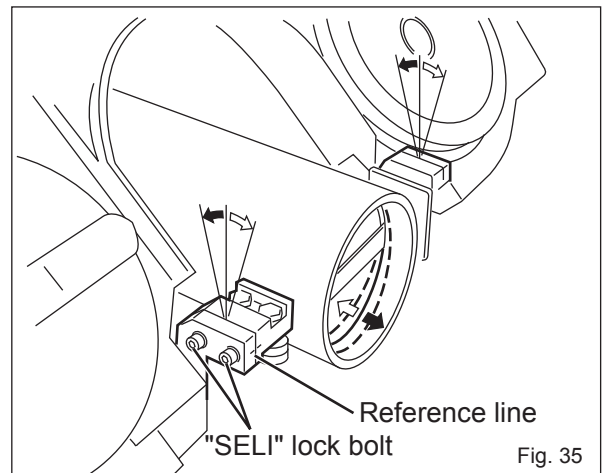

Fig. 35
1. Adjusting the "SELI" head angle (Fig. 35)
- (1) Remove the blade, using the procedure on Page 8.
- (2) Loosen the "SELI" head fastening bolt and turn the head to match the slanted cut.
- When the "SELI" head is moved in the direction of the white arrow (Fig. 35), the pipe will be cut in the direction of the white arrow.
- When the "SELI" head is moved in the direction of the black arrow (Fig. 35), the pipe will be cut in the direction of the black arrow.